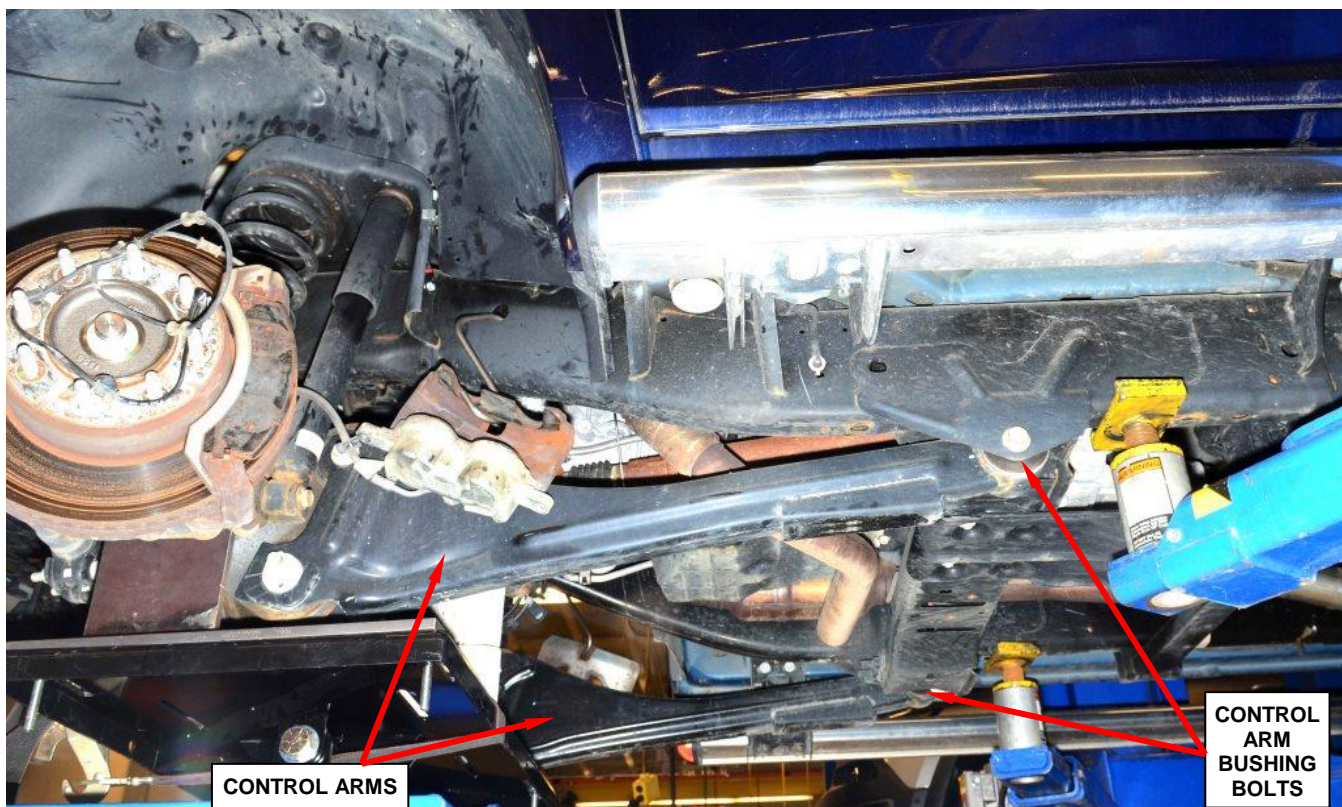

Figure 15 – Control Arm Bushing Bolts
20. Remove and save the control arm rear bushing bolts (Figure 15).